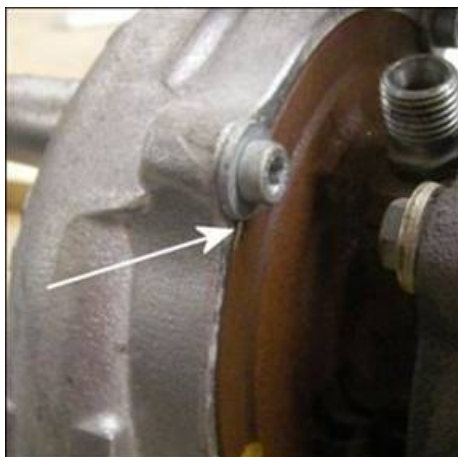

Figure 8
- Carefully inspect the turbocharger housing around the retaining bolts for witness marks (Figure 8), indicating that the housing has rotated.